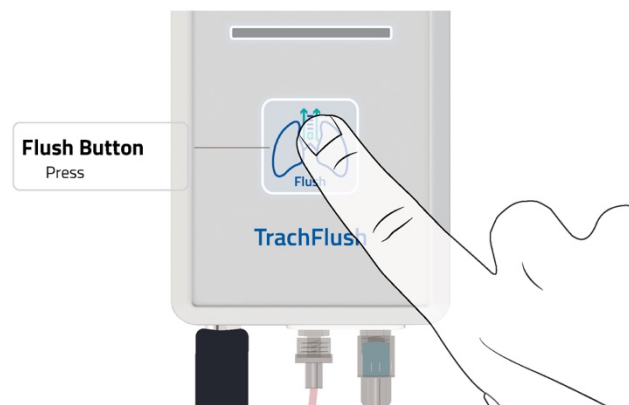

Figure 15: Performing a Flush
**Step 1:** Press the Flush button to activate the Flush Control as shown in Figure 15 below